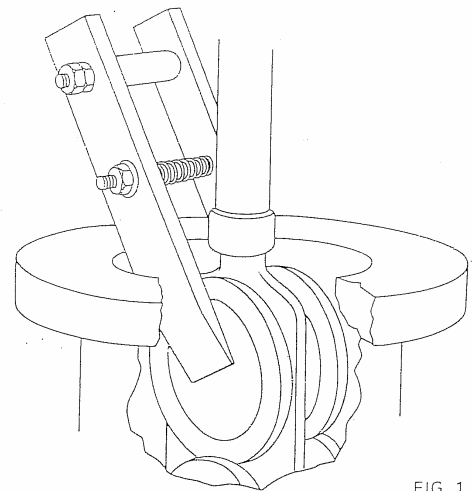

FIG. 1
See Figure 1.
Clamp the discs together as shown in Fig. 1. Bend back the tab washers and unscrew the disc holder setscrews (68). Then release the disc clamp.
2. Re-assemble belt rings, disc spring and discs (Ref 26) to belt eye (Ref 22). Fit disc clamp over the centre of the discs (Ref 26) as shown in Figure 1 and re-assemble disc holder (29).